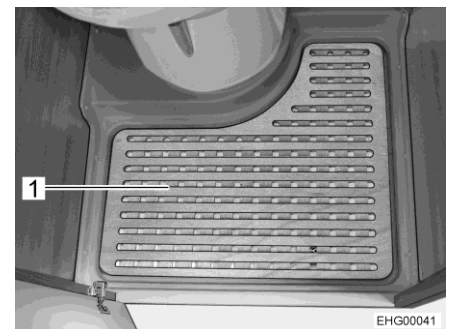

Fig. 94 Removable floor plate
- Take out the removable floor plate (Fig. 94,1) for showering.